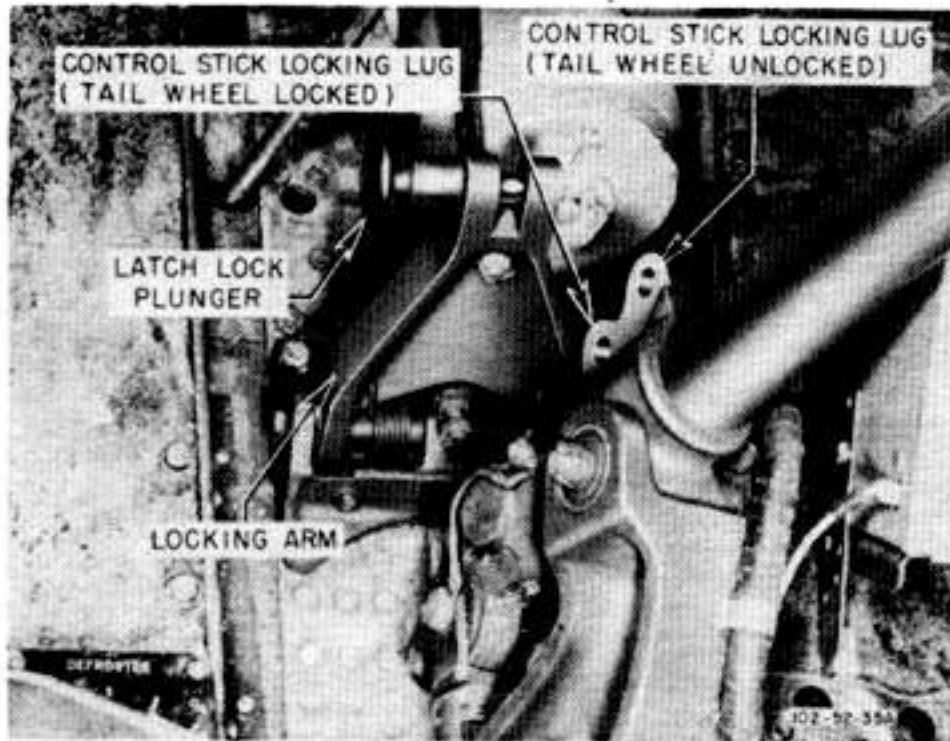

Figure 61—Surface Control Lock
(2) SURFACE CONTROL LOCK.—The surface control locking gear (figure 61), located forward of the pilot's control stick, is operated as follows:
The upper locking lug on the control stick positions the stick so that the tail wheel is unlocked, and the lower lug positions the stick so that the tail wheel is locked. (See figure 61.)
(b) Lock the surface controls at the lower locking lug and neutralize the rudder pedals so that the rudder controls lock. With the stick in this position, the tail wheel is locked. (See figure 61.)